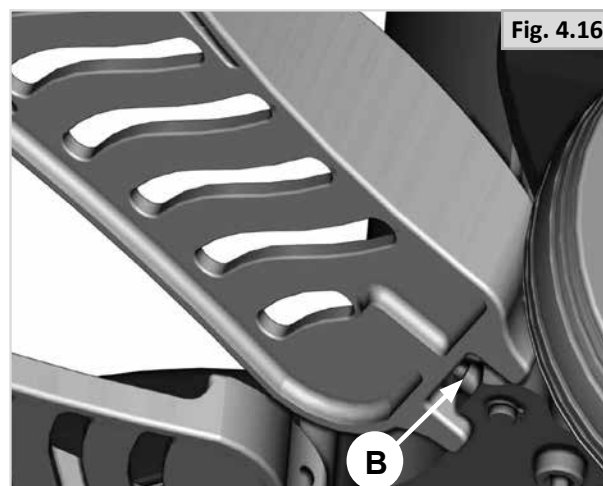

Fig. 4.16
- Flip up the footplate so that you can reach the angle setting screw, (B-Fig.4.16).
- Loosen 4 bolts (A)
- Turn screw B (fig 4.16) to adjust footplate height.
- Tighten 4 bolts (A)